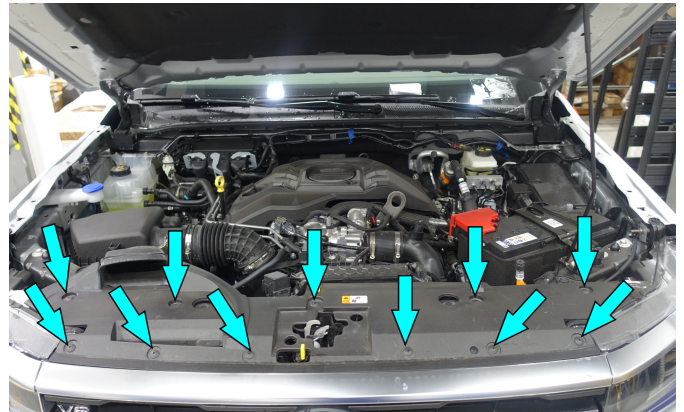

Fig.2
2. Release the phillips head clips to remove the top cover (fig. 2).